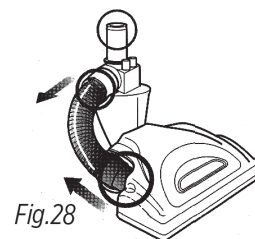

Fig.28
- Detach the hose on the motorized floor brush at the top by squeezing the tabs together and pulling out, and at the bottom by pulling out the connector. Inspect inside the 3 holes. (Fig. 28)